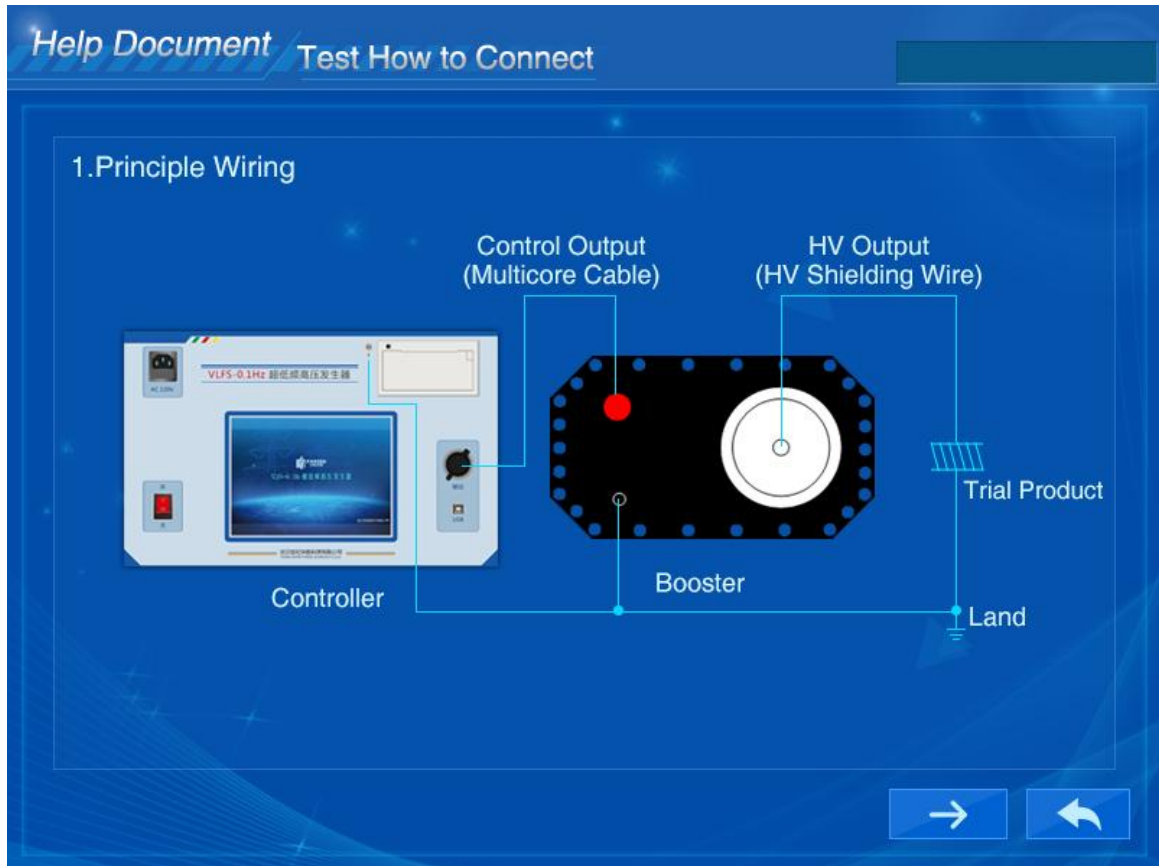

Figure 13
6. Test wiring: Connect the test equipment and the test cable by means of the enclosed special connections according to the method shown in Figure 13. After carefully checking that the wiring is correct, switch on the power supply, set the test frequency, time, voltage, and the over-current protection value and the over-voltage protection value on the high voltage side, and then start the boost test.